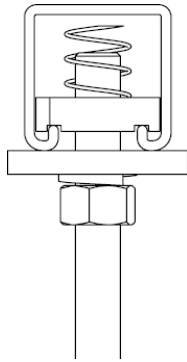

Figure 257: **Hex Nut Tightened and Lock Washer is Fully Compressed**
- Tighten the hex nut to the recommended torque, making sure the lock washer is fully compressed (Figure 257).